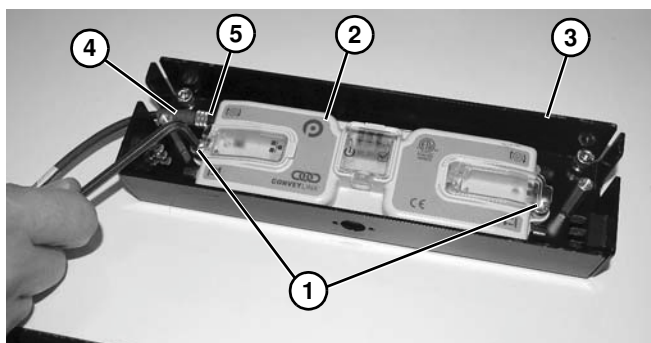

Figure 213
4. Remove two screws (**Figure 213, item 1**) holding controller (**Figure 213, item 2**) onto bracket assembly (**Figure 213, item 3**).
5. Remove end (**Figure 213, item 4**) of motor wiring from threaded end (**Figure 213, item 5**) on controller.